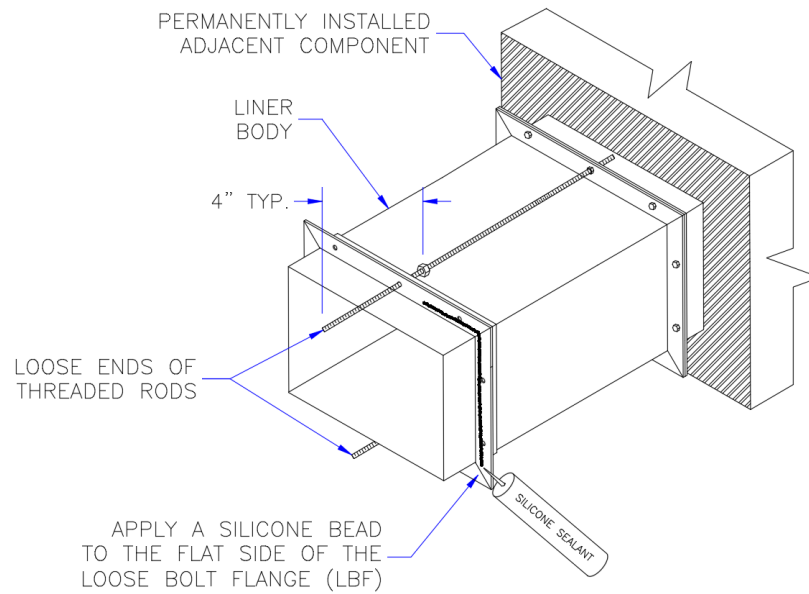

Figure 7: Slide the Loose Bolt Flange over the Liner Body and apply a bead of silicone.
- It is important to choose holes that allow the threaded rod to pass unobstructed through the spacer. (See figure 7)
12. Place a bead of silicone on the flat side of the LBF all the way around. (See figure 7)